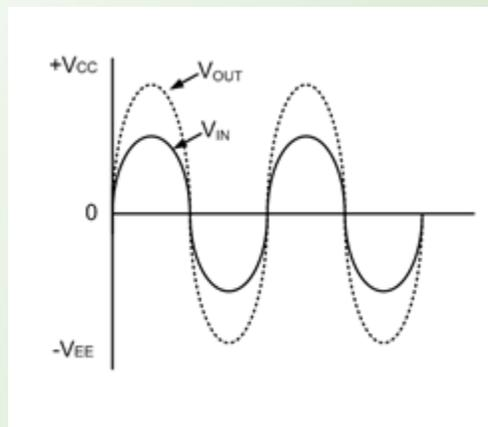

Figure 3.3: Non-Inverting Amplifier
1. Sketch the circuit diagram of **figure 3.3** by using Multisim Online Simulator. Refer <https://www.multisim.com/>